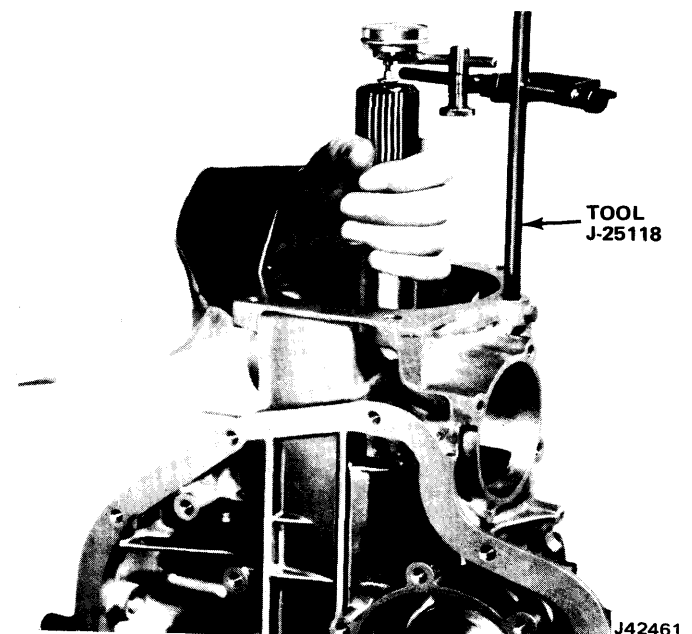

Fig. 7-133 Measuring Rear Unit End Play
(1) Install Slide Hammer J-25118 in extension housing attaching bolt hole (fig. 7-133).